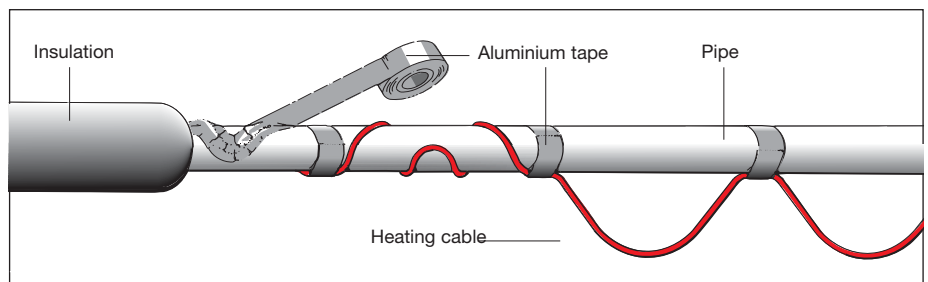

Fig. 3
2. The cable is attached to the pipe in waves, see fig. 3.